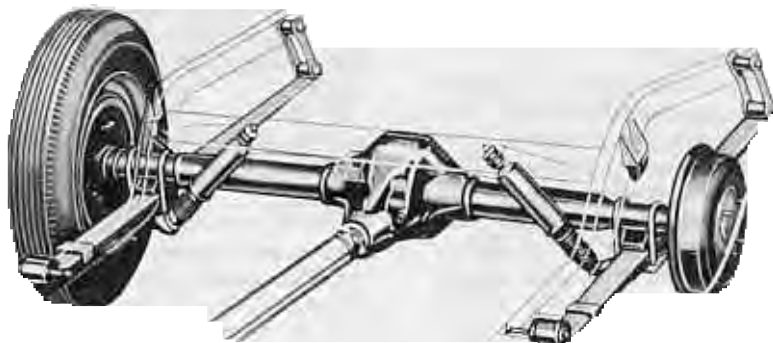

FIG. 13—Rear Axle Installation—Integral Carrier Type
10. Support the rear axle housing on a jack, and then remove the spring clip nuts. Remove the spring clip plates (Fig. 13).